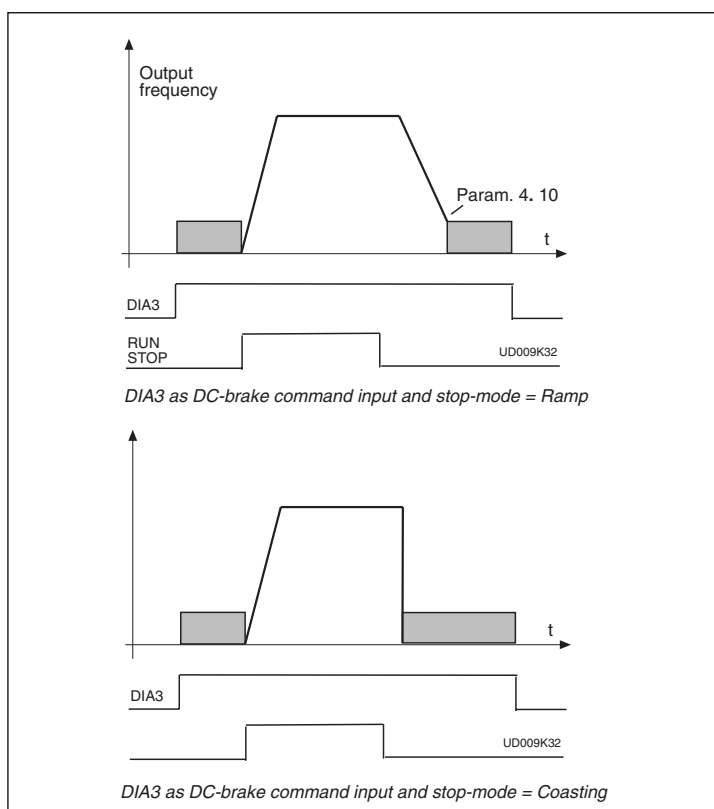

Figure 6-1 DIA3 as DC-brake command input:
- 9: DC-braking command contact closed = In the stop mode, the DC-braking operates until the contact is opened, see figure 6-1. Dc-brake current is set with parameter 4. 8.
| 9: DC-braking | contact closed | = In the stop mode, the DC-braking operates until the contact is opened, see figure 6-1. DC-brake current is set with parameter 4. 8. |